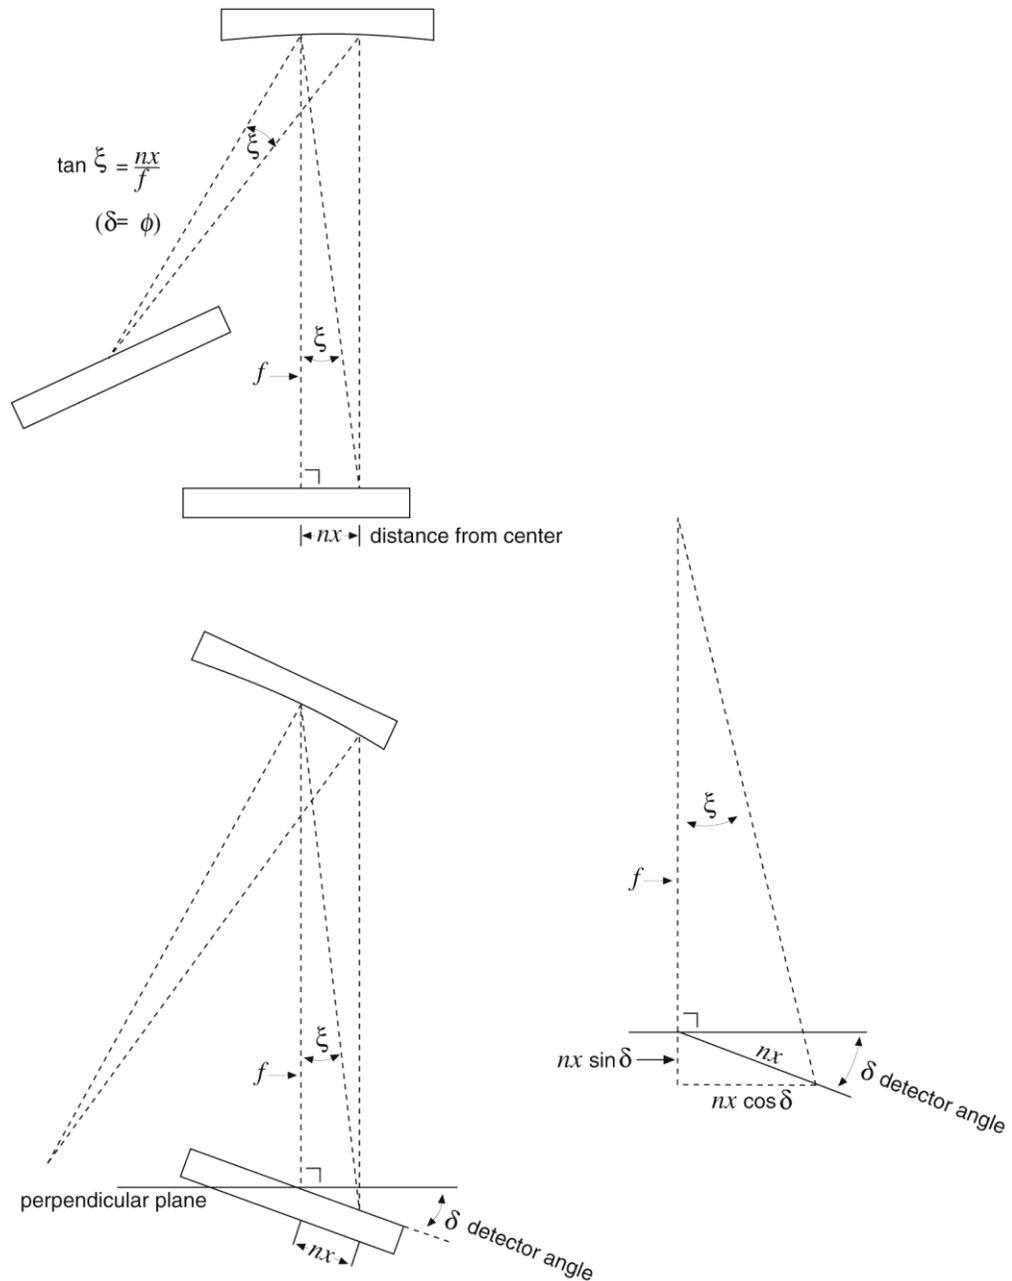

Figure 204. Relationship between ξ and the focal length, detector angle, and the distance of λ' from image plane
Note that the wavelength at the **center** of the exit plane does not depend on the focal length, f . However, the wavelength at points off center depends on both the focal length and the detector angle, δ (the angle of the image plane relative to the plane perpendicular to the spectrograph focal axis at the center of the image plane; see Figure 204). For some wavelength λ' relatively close to λ (at the same grating angle),
$$\tan \xi = (\mathbf{nx} \cos \delta) / (f + \mathbf{nx} \sin \delta), \text{ as shown in Figure 204.} \quad (4)$$